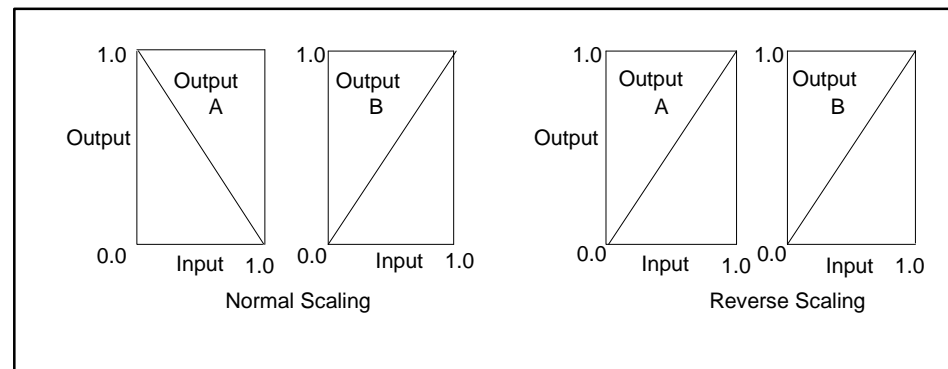

Figure 7-4 Split Range Reverse and Normal Scaling
- When the input is 0.0, the first output (A) is 100% (1.0); the second output (B) is 0.0% (0.0). If the reverse scaling option is selected, both outputs (A and B) are 0.0% (0.0). See Figure 7-4.
- When the input is 1.0, the first output (A) is 0.0% (0.0); the second output (B) is 100.0% (1.0). If the reverse scaling option is selected, both outputs (A and B) are 100% (1.0). See Figure 7-4.